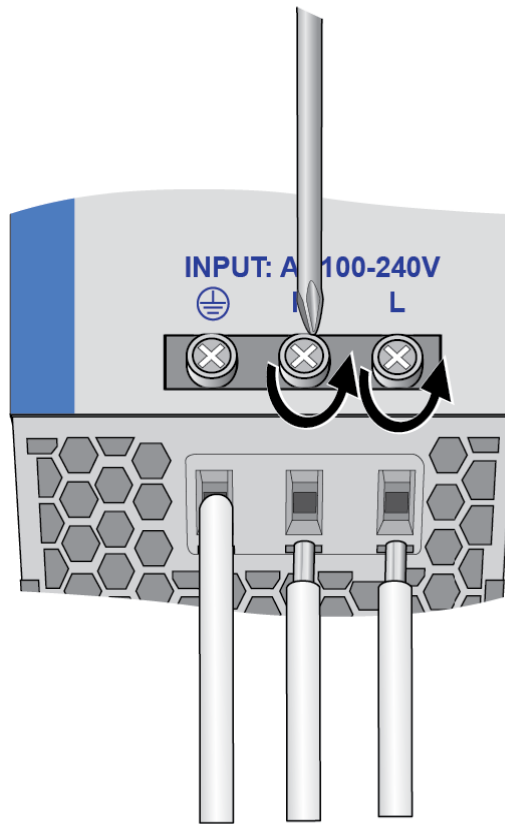

Figure 13. Installing the AC Power Wires
2. Loosen the two N (Neutral) and L (Live) screws on the front panel of the IE048-480 Power Supply and insert the wires into the connectors on the bottom panel. Refer to Figure 13 on page 53.